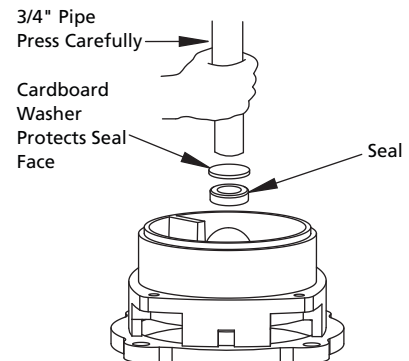

Figure 15 - If Necessary, Press With Cardboard And Pipe.
6. If seal does not seat correctly after recleaning cavity, place a cardboard washer over polished seal face and carefully press into place using a piece of standard clean 3/4" plastic pipe as a press (See Figure 15).